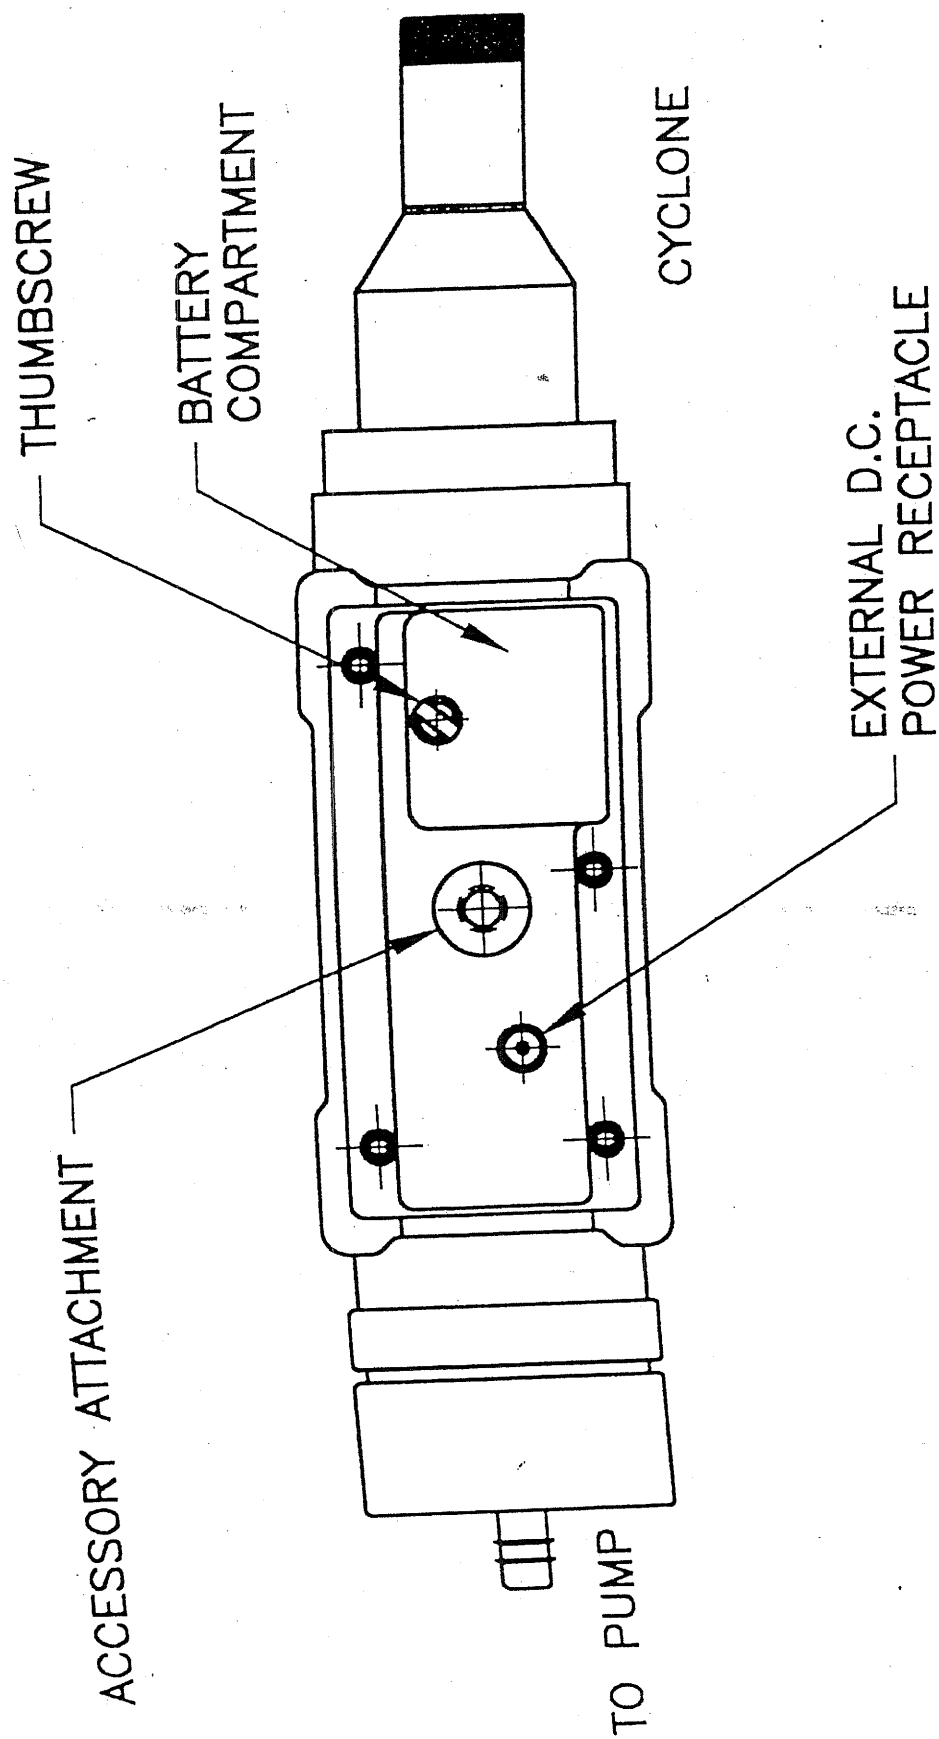

Figure 4 - BOTTOM VIEW (MODEL pDR-1200)
- threaded opening on the bottom base (see accessory attachment fitting on Fig. 4).